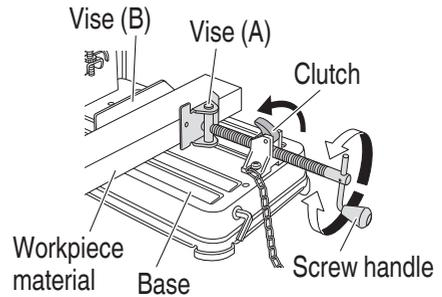

Fig. 6
Then, turn the clutch down, and securely fix the workpiece material in position by turning the screw handle. When the cutting job is completed, turn the screw handle 2 or 3 times to loosen the vise (A), and remove the workpiece material, as shown in Fig. 6.